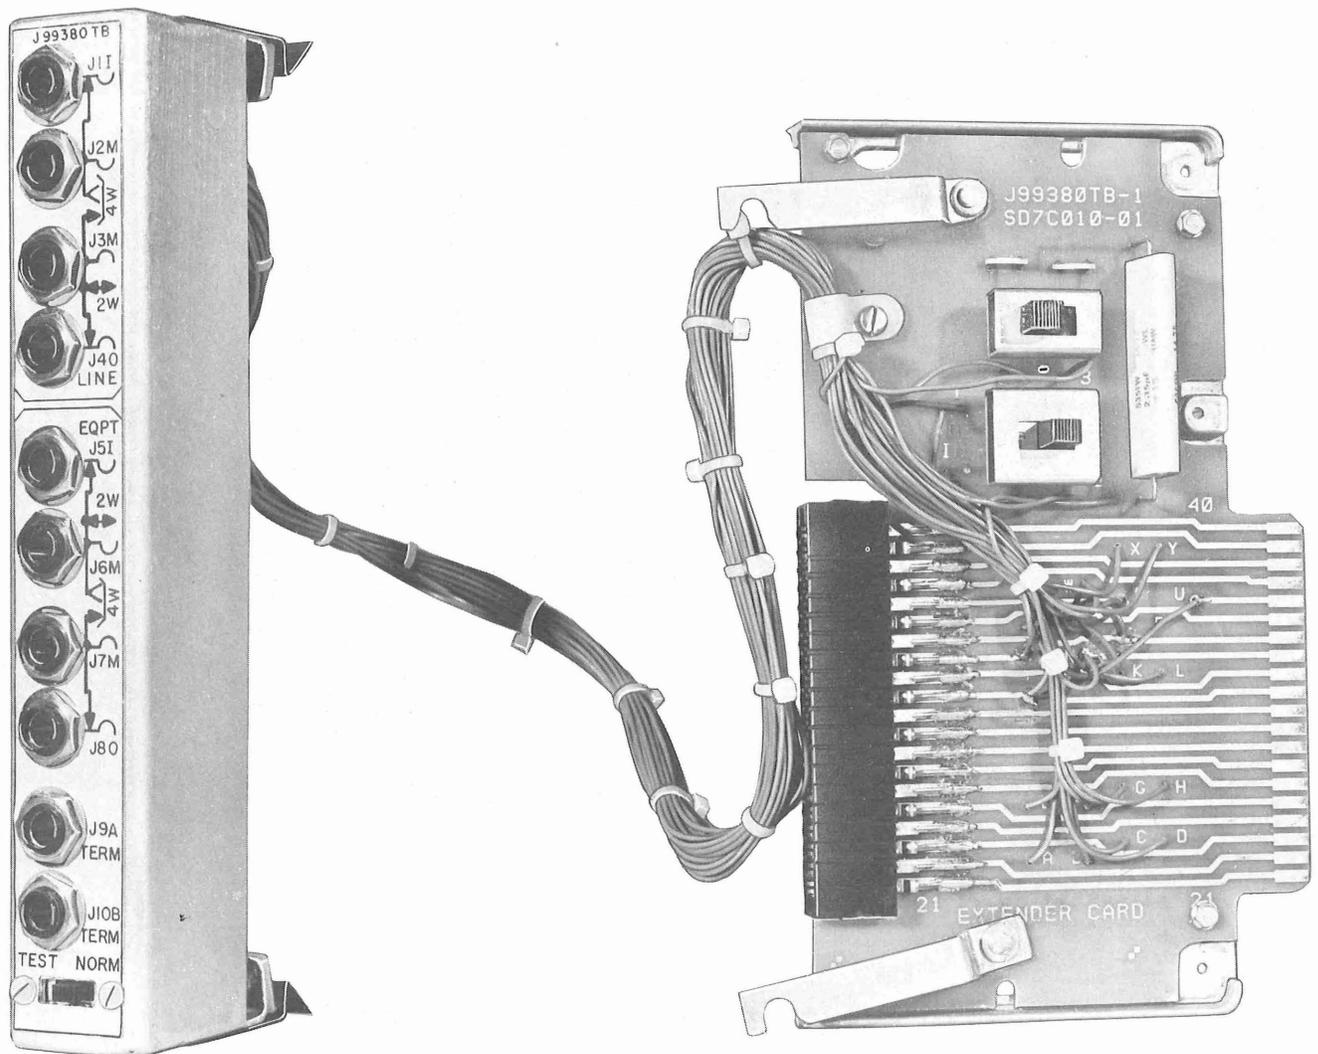

Fig. 3—J99380TB Test Extender
2.08 The MFT transmission units have no permanent jack access for transmission testing. Two test extenders, J99380TA (manufacture discontinued) and J99380TB, are available which permit jack access to the transmission leads for monitoring, transmitting and receiving test tones, and circuit terminating plugs. The J99380TB test extender, Fig. 3, contains compromise networks (600 or 900 ohms + 2.16 μ F), which may be substituted for the precision balancing networks in certain MFT units, for use during alignment procedures. Jacks for connecting external networks are available.